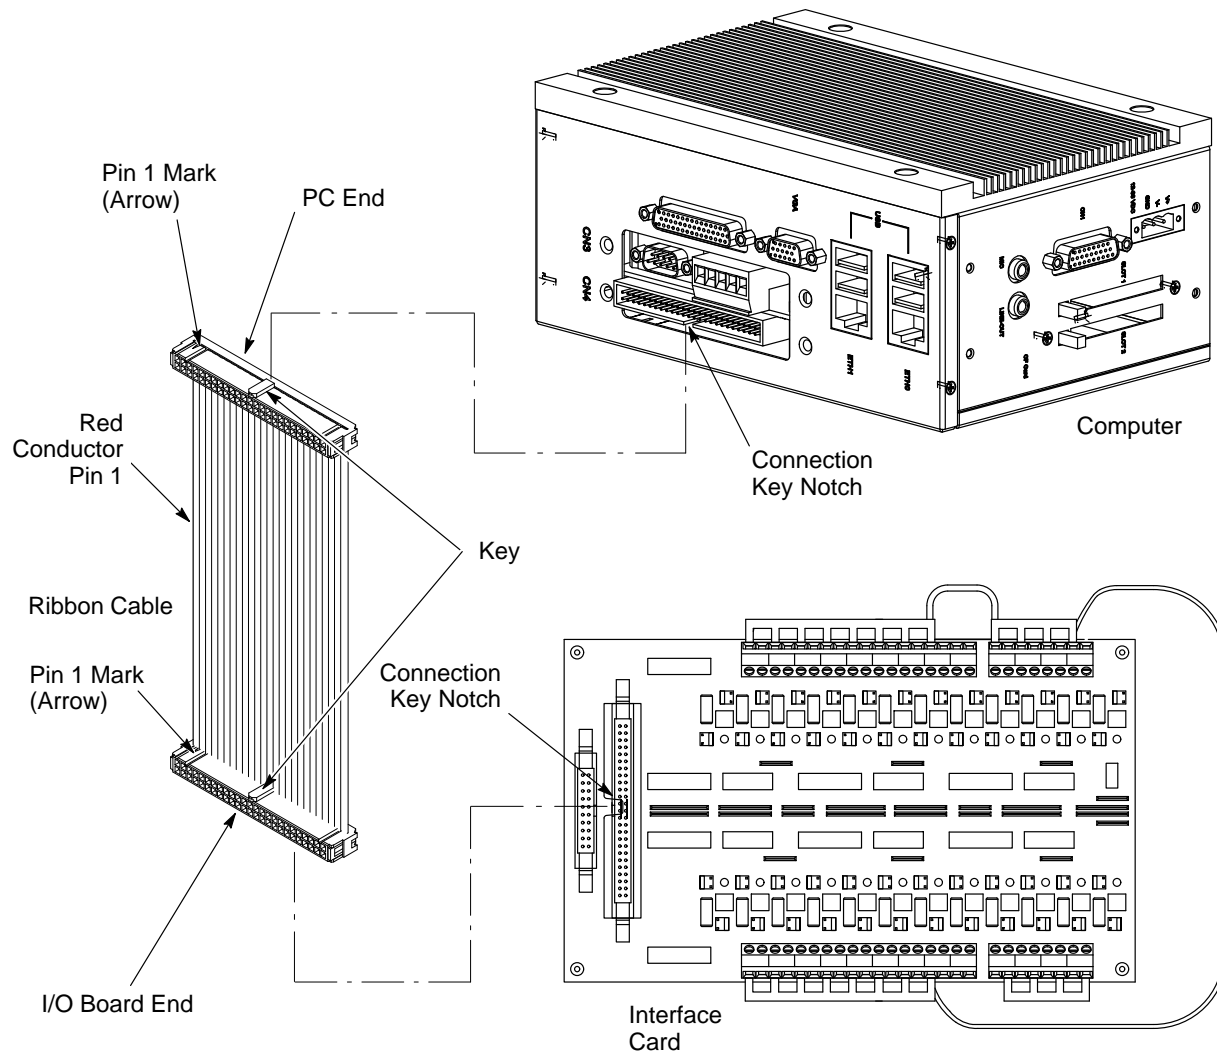

Figure 2 Computer and Interface Card Cable Connections
1. See Figure 2. Install the new interface card using the same four screws from the removal procedure.